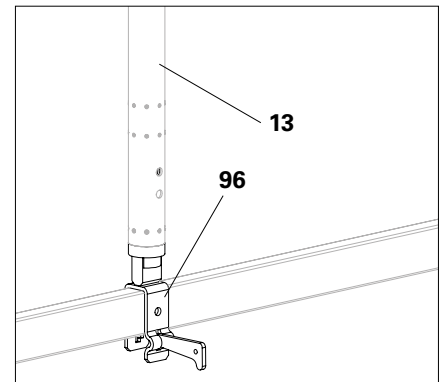

Fig. A11.12d
3. Fit standard (**13**) on UH Spigot (**96**). (Fig. A11.12d)